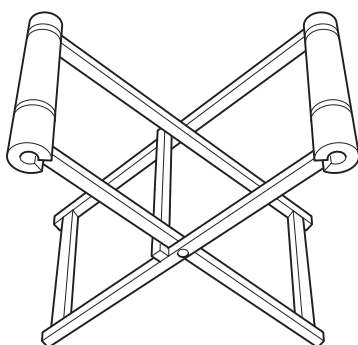

Fig 10. Glass Stand
- 2 After checking for size, remove the new glass and place it on a purpose made glass stand. ⇒ Fig 10. \(□ B-45\).